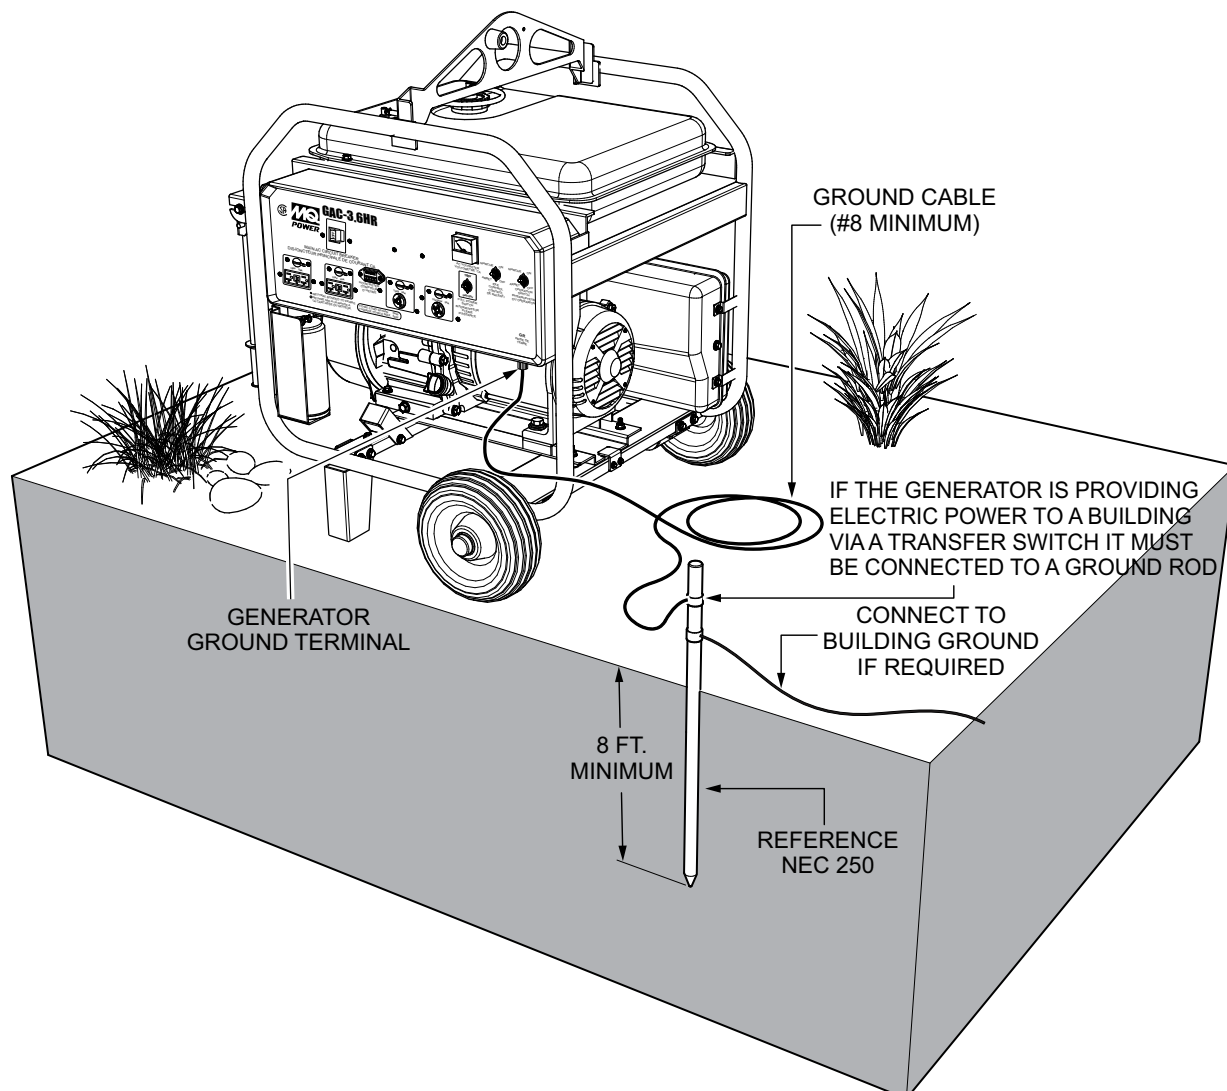

Figure 3. Generator Grounding
Connect one end of the ground cable terminal to the generator ground point (Figure 3). Connect the other end of the ground cable to a suitable earth ground (ground rod).
The Occupational Safety and Health Administration (OSHA) and the National Electrical Code (NEC) recommend that if the generator is providing electrical power to a structure home, office shop, trailer or similar) it **must** be connected to a grounding electrode system, such as a driven ground rod (Figure 3).
If applicable, to guard against electrical shock and possible damage to the generator, it is important to provide a good **EARTH** ground (Figure 3).
2. When grounding of the generator (Figure 3) is required, connect one end of the ground cable to the ground lug on the generator. Connect the other end of the ground cable to the ground rod earth ground).